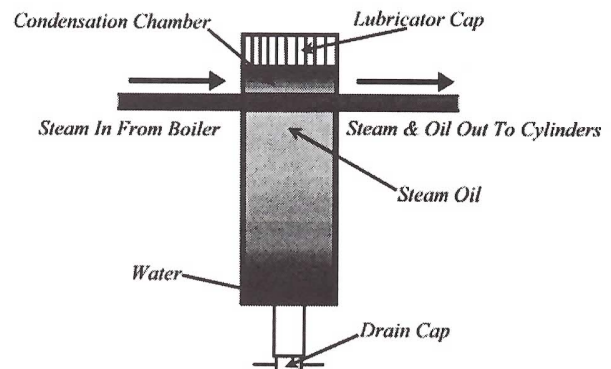

Figure 3 - Displacement Lubricator
- You will notice a pipe that runs through the lubricator (see Fig. 3)